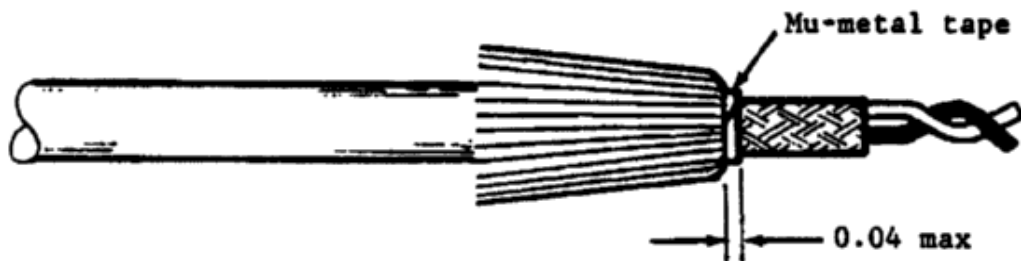

Figure 5-6
4. If mu-metal tape is present, trim it as shown in Figure 5-6.